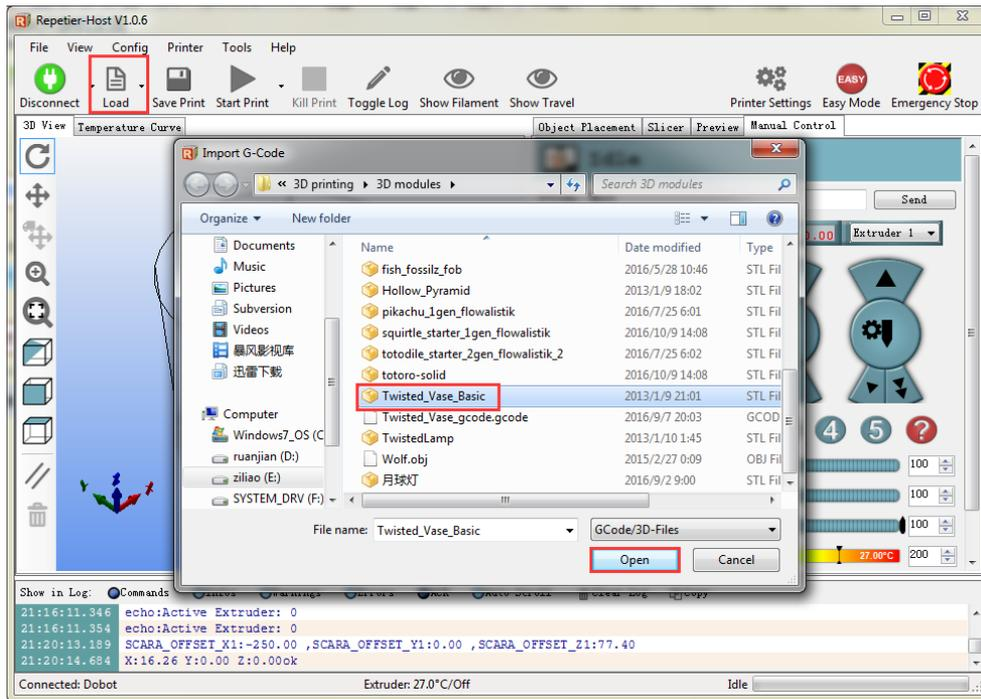

Figure 5.96 Import 3D printing model
Step 6 Click **Load** to import the prepared 3D printing model, as shown in Figure 5.96. The format of 3D model is **STL**. You can design 3D model and transform it into STL format.